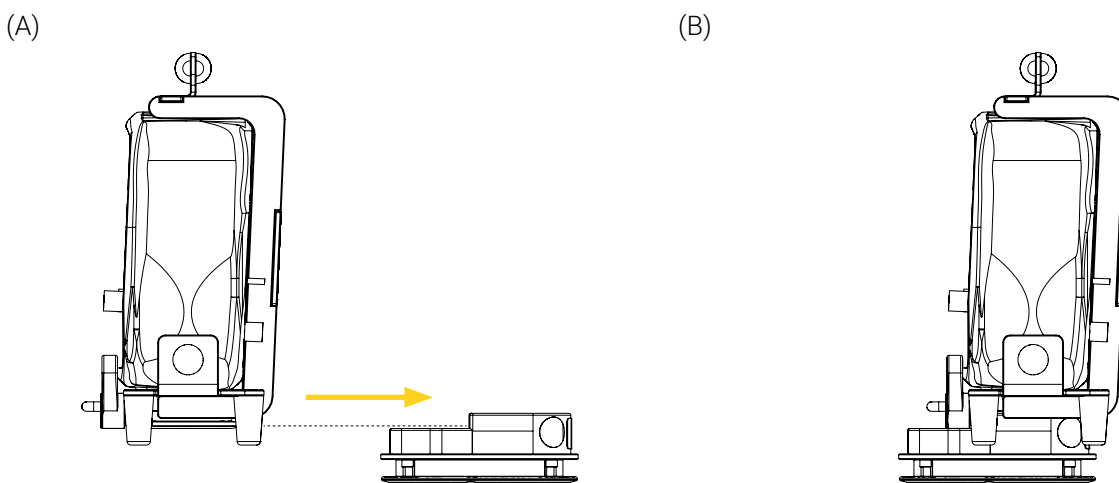

Figure 11: Installing the mounting bracket on the Micro Base
2. Align and insert the micro disc located under the mounting bracket in the Micro Base horizontally using the front handle until it locks (Figure 11).